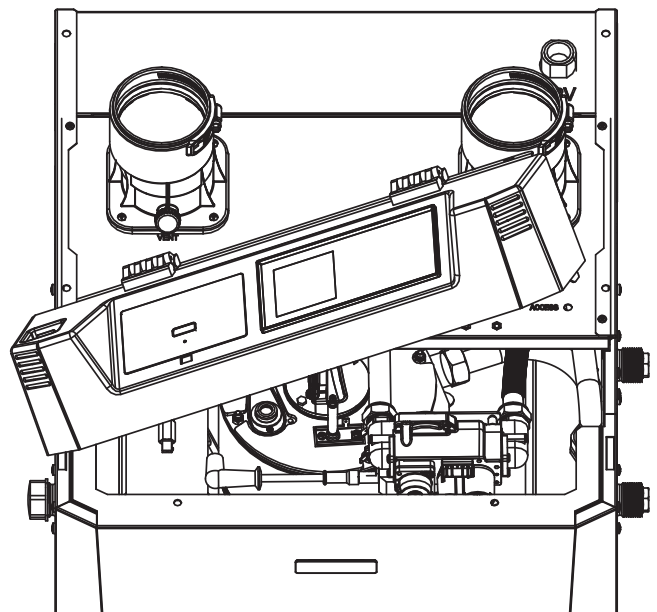

Fig. 11: HMI Removal
1. Replace HMI. See Figure 11.